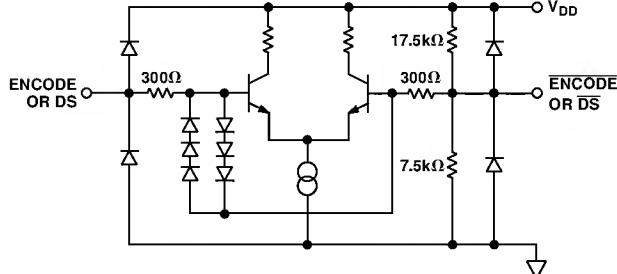

Figure 5. Equivalent ENCODE and Data Select Input Circuit
³ t_{V} and t_{PD} are measured from the threshold crossing of the EN CODE input to valid TTL levels of the digital outputs. The output ac load during test is 5 pF (Refer to equivalent circuits Figures 5 and 6).
ENCODE and Data Select (DS) can be driven differentially or single-ended. For single-ended operation, the complement inputs (ENCODE, DS) are internally biased to V_{DD}/3 (~1.5 V) by a high impedance on-chip resistor divider (Figure 5), but they may be externally driven to establish an alternate threshold if desired. A 0.1 μ F decoupling capacitor to ground is sufficient to maintain a threshold appropriate for TTL or CMOS logic.
Note the 6-diode clock input protection circuitry in Figure 5. This limits the differential input voltage to $\sim \pm 2.1$ V. When the diodes turn on, current is limited by the $300\ \Omega$ series resistor. Exceeding 2.1 V across the differential inputs will have no impact on the performance of the converter, but be aware of the clock signal distortion that may be produced by the nonlinear impedance at the converter.